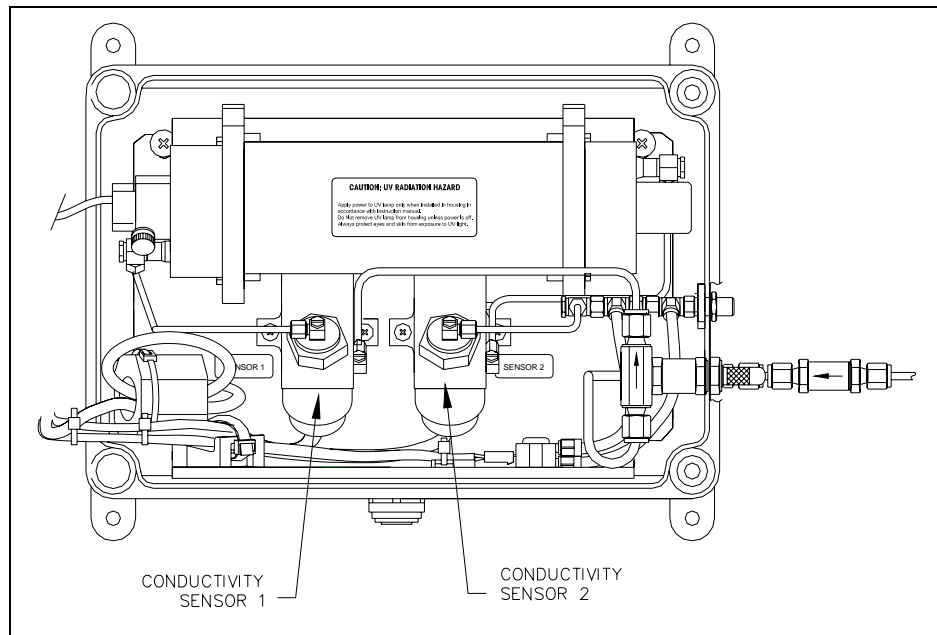
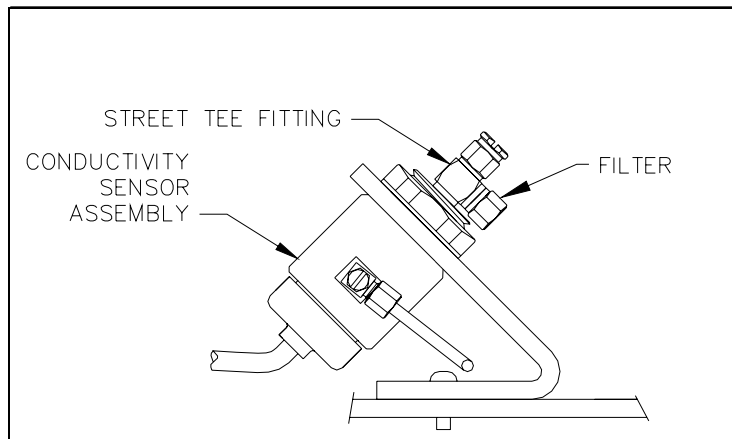

Figure 5. Location of Conductivity Sensor #1 and #2
Figure 6. Location of Filter and Street Tee Fitting at Conductivity Sensor #2
3. The location of Conductivity Sensor 2 is shown in Figure 5. The filter is located on the top of the conductivity sensor and is between the street tee fitting and the barb fitting connected to the tubing. See Figure 6.